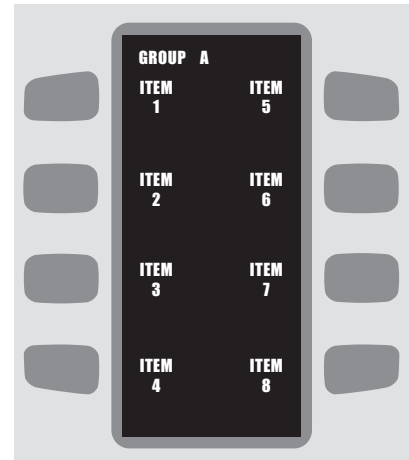

FIGURE 16: Menu Item Select Screen
3. From the MENU ITEM SELECT screen, select the food item you wish to cook by pressing the adjacent soft key (Figure 16).